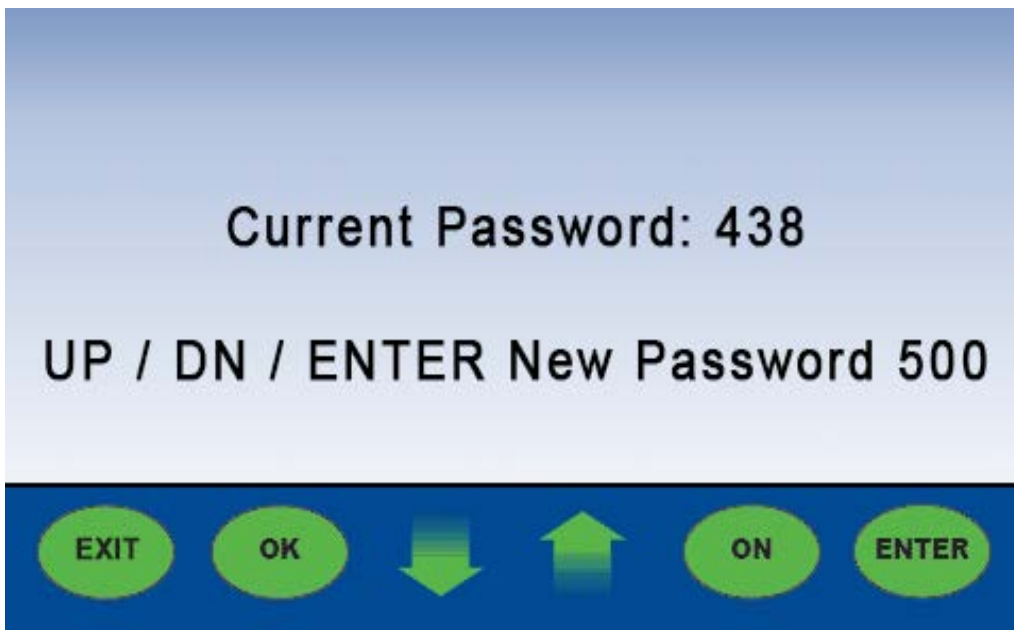

Figure 72
7. To set the first number in the new password sequence, press the **up arrow** (to decrease, use the **down arrow (Figure 72 on page 122)**).